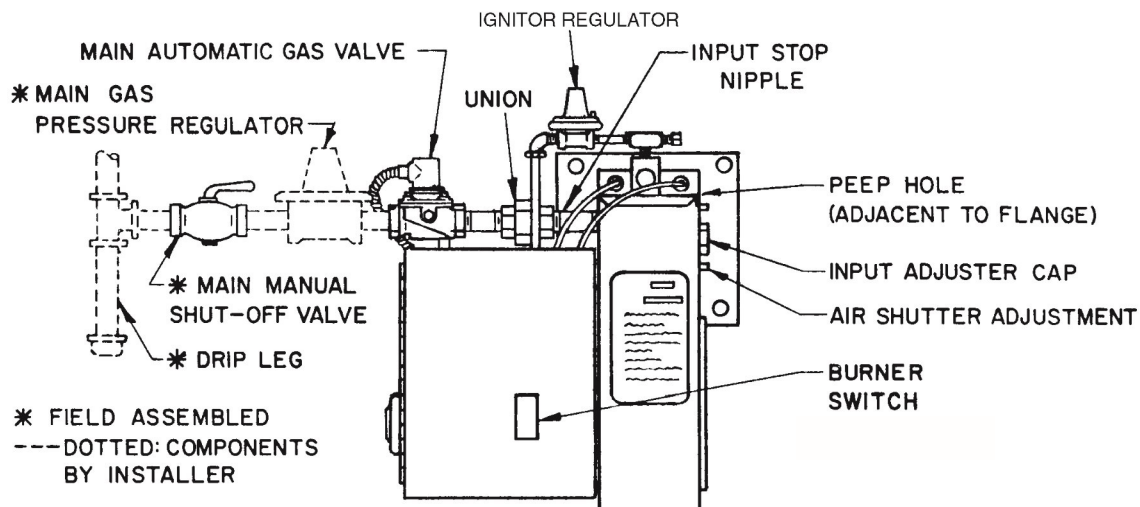
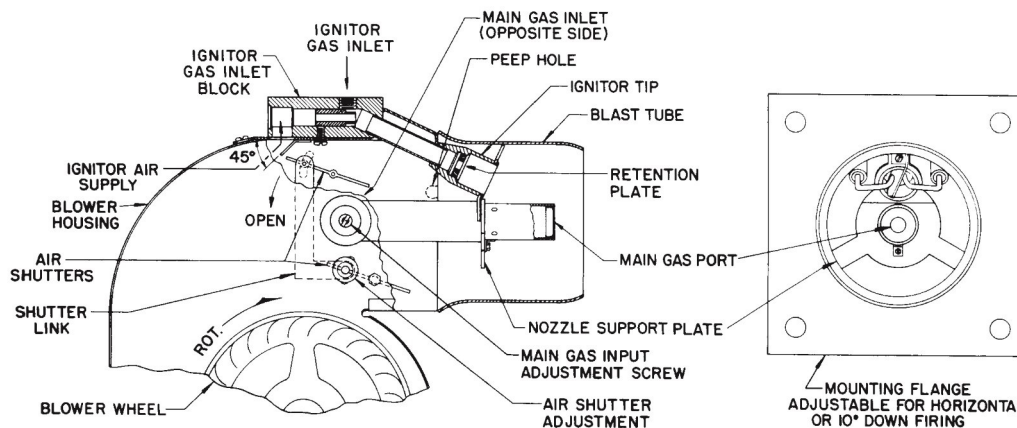

Figure 3 Control Components
Figure 4 General Burner Assembly
- Use pipe joint compound resistant to liquid petroleum gases when using either NATURAL or PROPANE gas. Piping must comply with the local and national codes. If the burner piping must be rearranged because of space limitations, be sure to carry out the general configuration shown in Figure 3.
**⚠ CAUTION: When adjusting the regulator, take note of the supply pressure. If gas supply pressure is below its specified range during adjustment, an over-fire condition could result when pressure returns to normal, particularly if the regulator adjustment screw is BOTTOMED OUT. ALWAYS confirm that at least the minimum rated pressure is being supplied to the ignitor during regulator adjustments, and NEVER BOTTOM OUT regulator screw. Operate air shutter throughout range to confirm Ignitor stability. Try several relights. Refer to Figure 4.**
10. Remove the input adjuster cap (see Figure 3) and, with the Ignitor and Main Flame on, turn the Main Gas Input Adjusting Screw (see Figure 4) until the desired input rating is reached (refer to Table 2). Turning of adjustment screw counterclockwise increases gas flow; clockwise reduces flow. If Main Flame gas pressure requires adjustment, refer to SECTION V PIPING SUPPLY.
- Check that the Ignitor Air Deflector is at the correct angle (45°). See Figure 4.